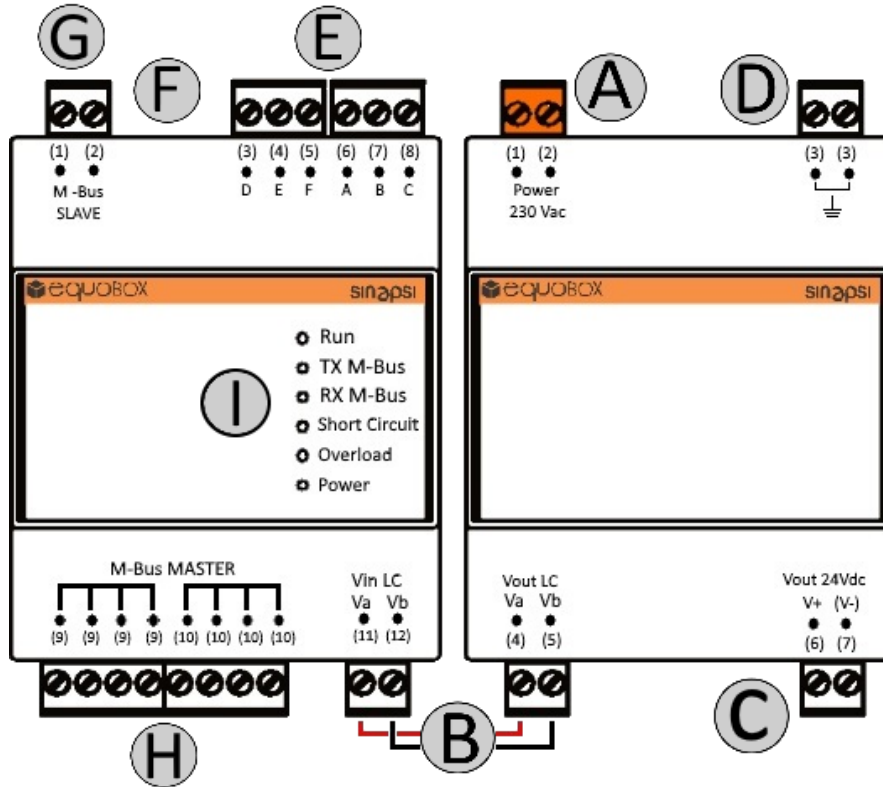

Figure 2 – Features and connectors Level Converter (SIN.EQLC250)
- Power the device and after 2 seconds press and hold the 'PROG' button (F in fig. 2) until the update process starts